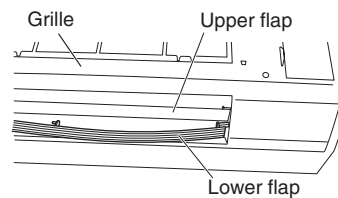

Fig. 1-157
- (5) Remove the lower flap by disengaging 4 pins of the lower flap in order. (Figs. 1-157 and 1-158)